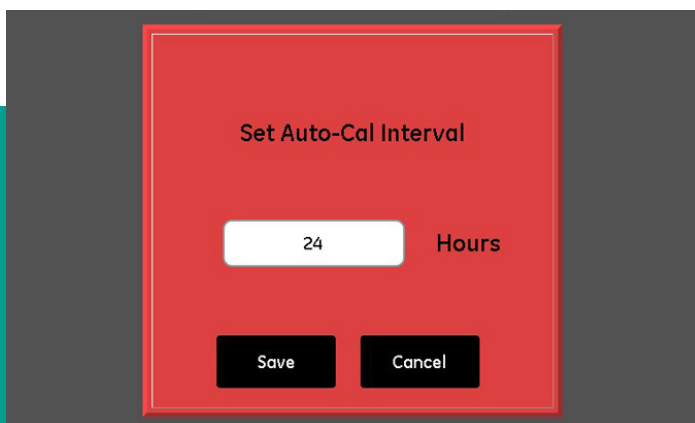

Figure 57: Set auto-cal interval screen
1. From the *probe configuration* screen, tap **auto-cal setup** button to access the *set auto-cal interval* screen for the desired probe (see *figure 57* below).